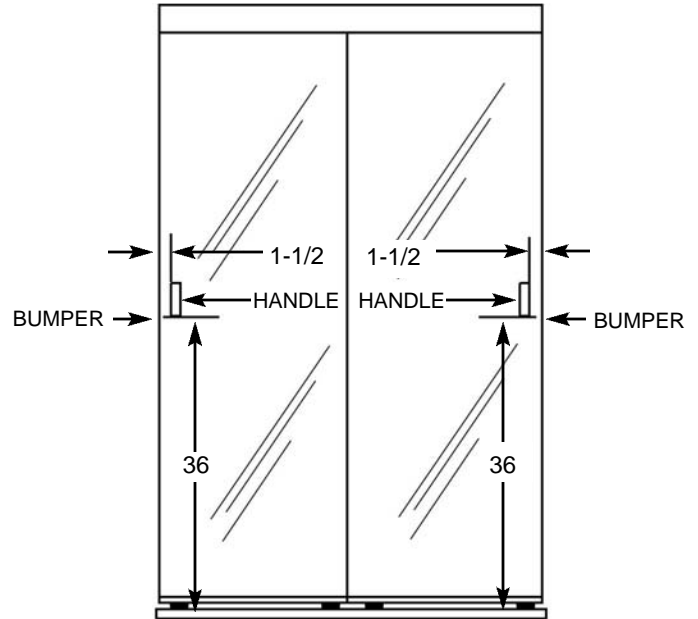

Figure 5
Peel paper off the back of the Clear Plastic Bumpers (#8) and place on the edge of the Panel frame 36 up from the bottom. The Clear Plastic Bumpers (#8) will cushion and protect the door and wall when you close the wardrobe doors (See Figure 5).
- A. Clean mirror in the area where the Mirror Handles (#7) will be applied. Peel paper off the back of the Mirror Handles (#7). Position each Mirror Handle (#7) 36 from the bottom of the Panel (#1) and 1-1/2 from Side Mold (#11) on each Panel (#1) (See Figure 5).